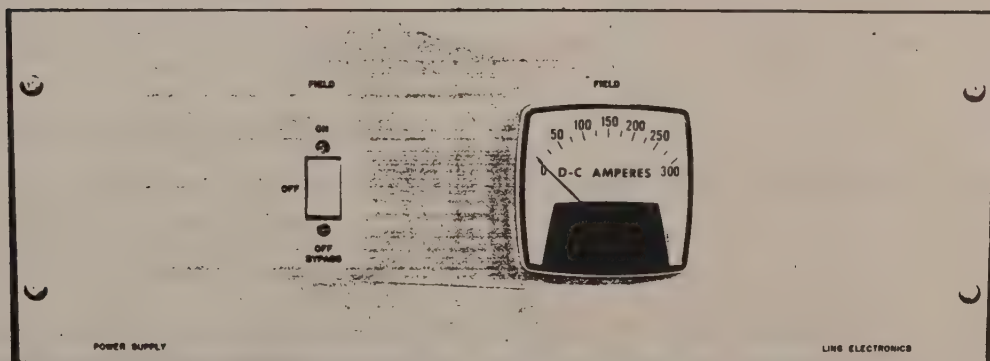

Figure 2-5. PSE-300 FPS Control Panel
2. Set the ON-OFF-BYPASS switching on the FPS control panel to the ON position. See Figure 2-5.